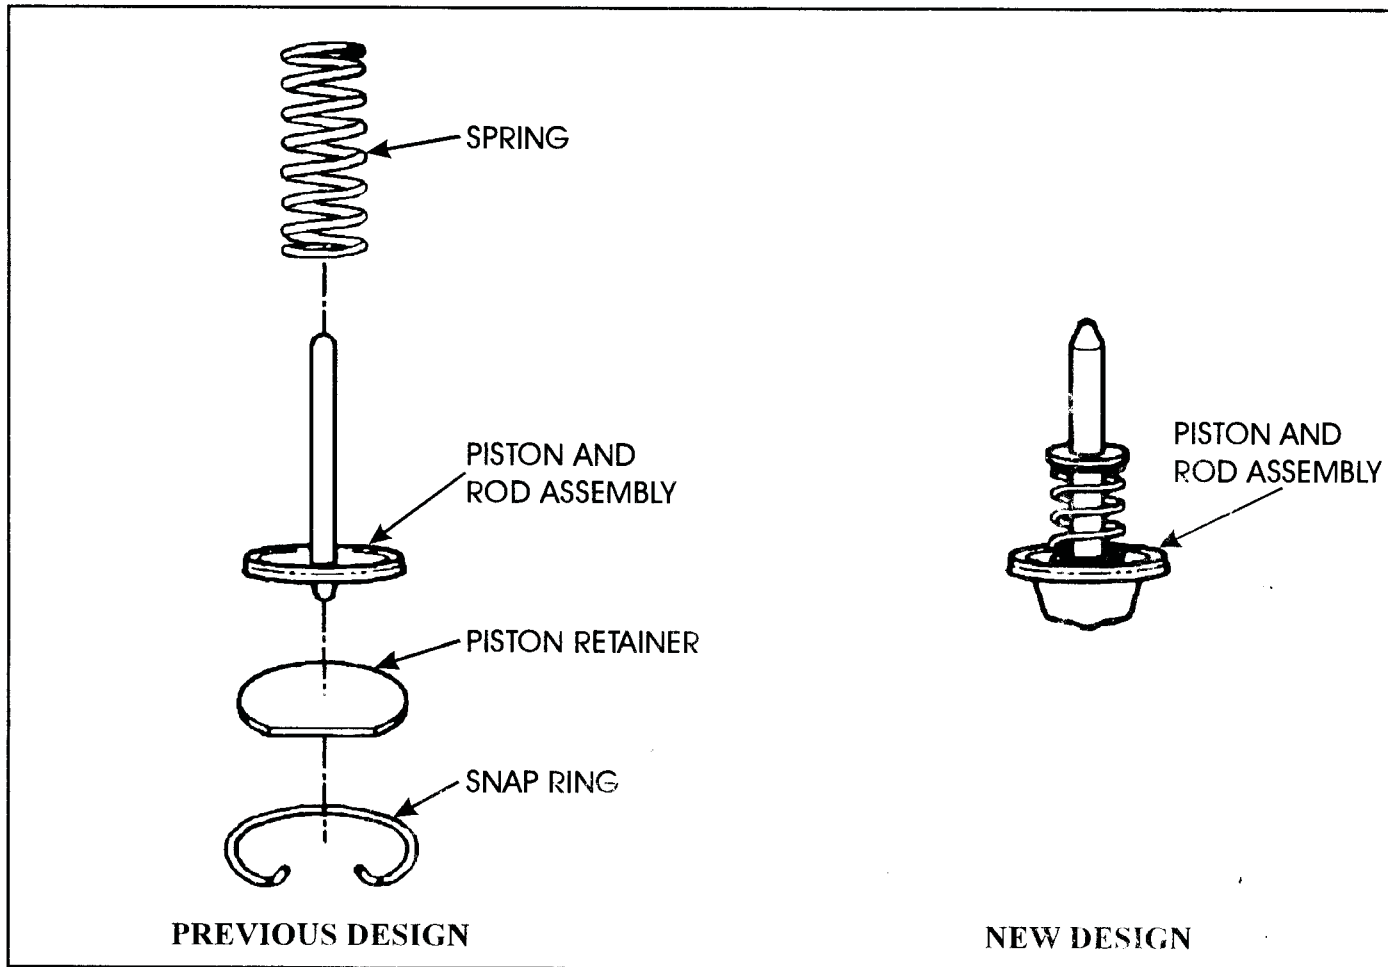

Figure 61
CHANGE: Beginning on August 8, 1995, all 1996 model E4OD transmissions were produced with a new design Intermediate Band Apply Servo Assembly (See Figure 61).
- (1) INTERMEDIATE SERVO PISTON - Total change in design, as shown in Figure 61.
- (2) SERVO PISTON RETAINER - Eliminated, as shown in Figure 61.
- (3) RETAINING SNAP RING - Eliminated, as shown in Figure 61.